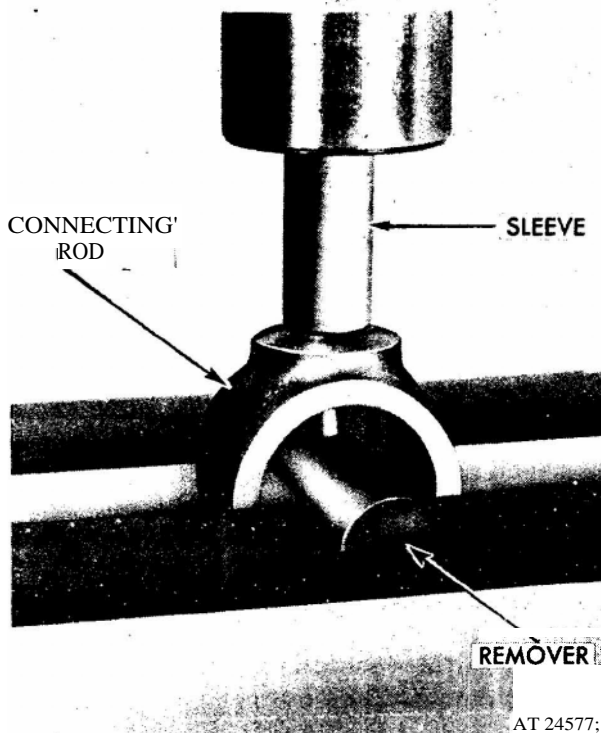

Figure 5. Removing spray nozzle from connecting rod.
2. Place the connecting rod, spray nozzle remover J 8995, and a short sleeve in an arbor press as shown in figure 5.